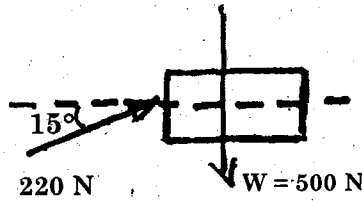

Fig. 3
7. For the system shown in Fig. 3 find the work done by the force in moving the object by 2 m.